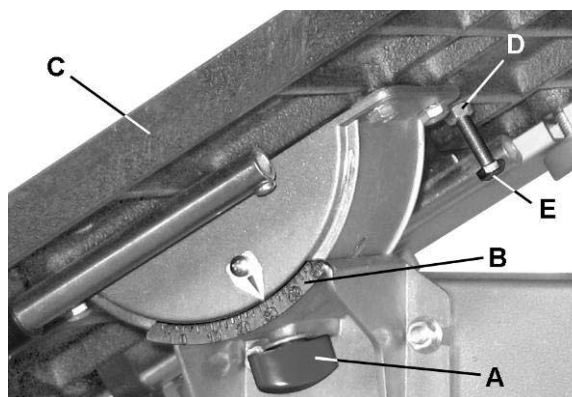

Figure 7
Referring to Figure 7:
The *table stop* (E, Fig. 7) is typically set to stop the table at 90° (perpendicular) with the blade.
2. Loosen *lock knob* (A, Fig. 7); then tilt the *table* (C, Fig. 7) down, bringing it to rest against the *table stop* (E, Fig. 7).
4. If an adjustment is necessary, tilt the *table* up to access the *table stop* (E, Fig. 7).
5. Loosen the *jam nut* (D, Fig. 7) and turn the *table stop* (E, Fig. 7) in or out to raise or lower the stop. Tighten the *jam nut* to hold the *table stop* in place.
For left tilt down to 5°, the table stop (E, Fig. 7) must be adjusted further.